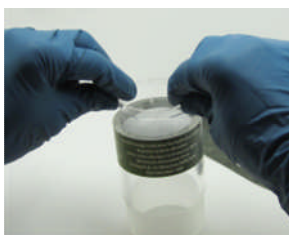

Figure 8
1.5. Carefully remove the top retainer and top porous plug (Figures 8 & 9)